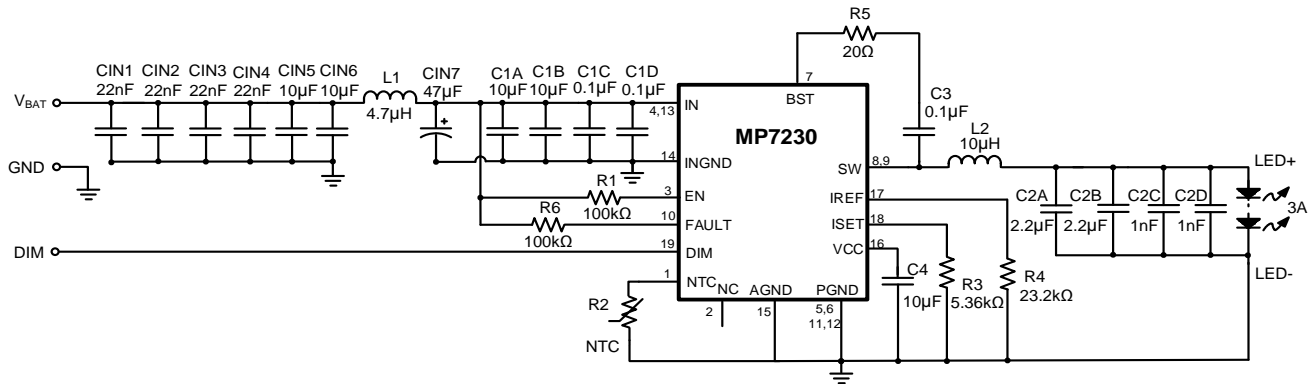

Figure 9: Buck Application Circuit ($I_{LED} = 3A$)
- 14) The recommended layout is based on Figure 9 on page 50.